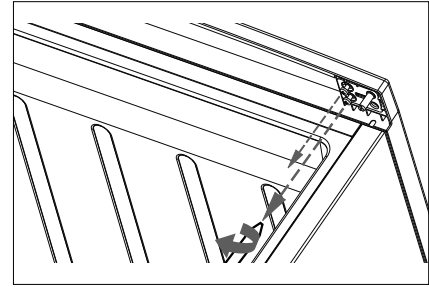

Fig. 5
- ▶ Use a Phillips screwdriver to loosen the two retaining screws on the upper hinge (Fig. 5).